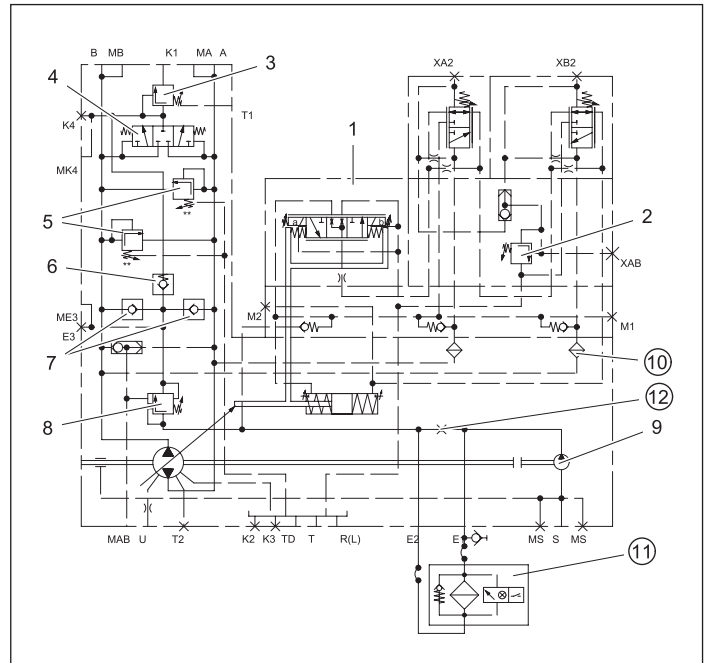

Fig. 39: Example Circuit diagram SP 500¹⁾
Regardless of the selected boost circuit filtration, the HD and EP controls in sizes 500 and 750 are equipped with 0.2 mm control fluid coarse dirt filters as standard (see Fig. 39, pos 10.)
A boost circuit filter can be connected to these ports later on (see Fig. 39 pos 11).